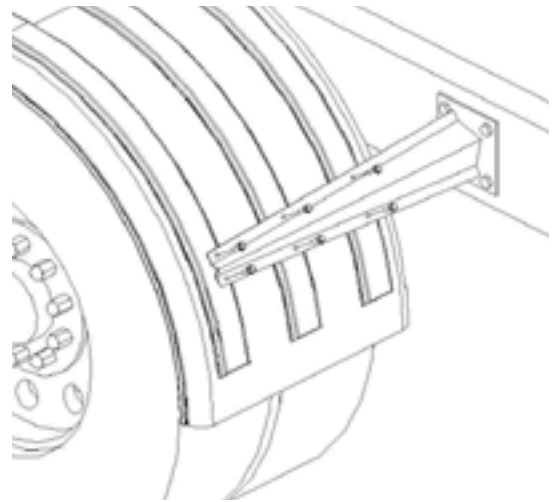

Figure 5
- A. Drill six 5/16" holes thru fender using the holes in bracket PB5010 as a guide. Install the 5/16" x 1" bolts thru the bracket and into the fender. Use six 5/16" body washers and 5/16" nuts provided with kit on the inside of fender. Hand tightening of bolts is suggested. Make sure the fenders are square and aligned. Twists or bows in the fender will fatigue the material over time. See Figure 5.